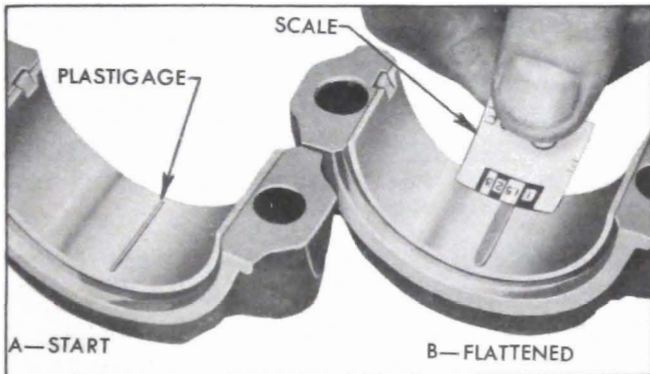

Figure 2-27—Checking Bearing Clearance with Plastigage
2. Place a piece of Plastigage lengthwise along the bottom center of the lower bearing shell (fig. 2-27, view A), then install cap with shell and tighten bolt nuts to 40-45 ft. lbs. torque. **NOTE:** *The rib on edge of cap and the conical boss on web of rod must be toward rear of engine on all rods in right bank or toward front of engine in left bank.*
5. Using the scale printed on the Plastigage envelope, measure the flattened Plastigage at its widest point. The number within the graduation which most closely corresponds to the width of Plastigage indicates the bearing clearance in thousandths of an inch. See figure 2-27, view B.